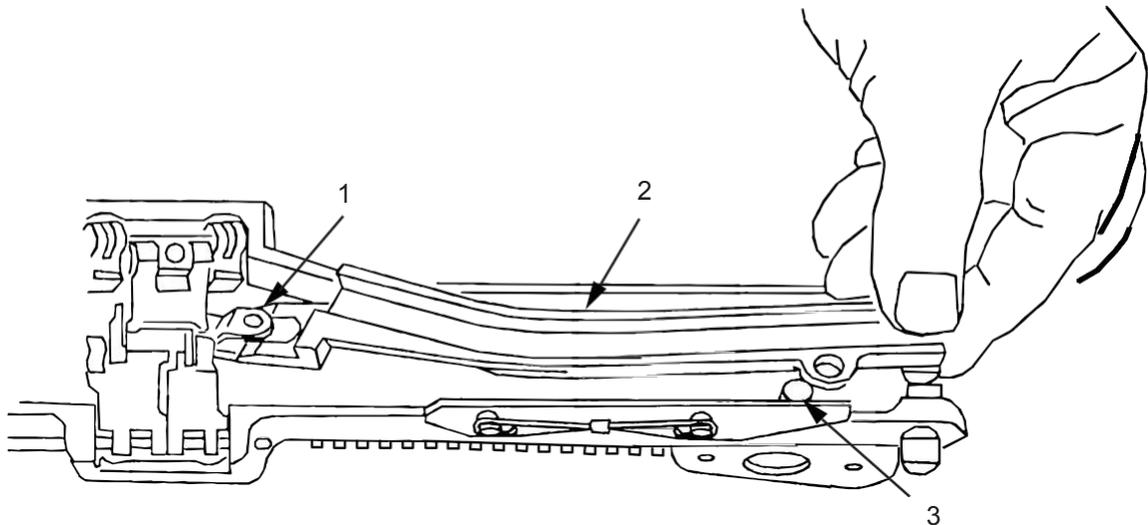

Figure 58. Engage Feed Lever on Roller.
30. Engage feed lever (Figure 58, Item 2) on roller (Figure 58, Item 1). Place on feed lever pivot (Figure 58, Item 3) and drop in place. Be sure feed lever (Figure 58, Item 2) is flush with top of feed lever pivot (Figure 58, Item 3).